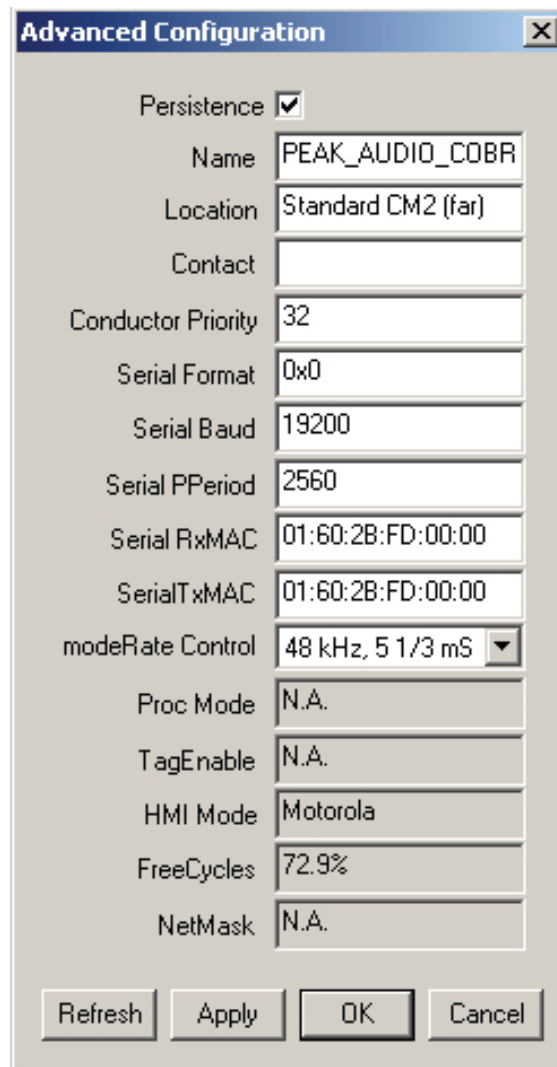

Figure 5-4: Global Interface settings
- Main Interface settings: This section covers the more advanced variables not usually associated with bundle management and which apply to the CobraNet™ device globally (see Figure 5-4). These are explained in detail in the CNDISCO manual, but 2 are of particular importance to the Ci series interfaces, ie...
settings via “persistence” (see previous section and Figure 5-4). If the persistence option is enabled, then the last set of values/settings can be stored into the Cobranet flash and will be restored on power up. Note that these settings can take up to 1 minute to save, as they are stored in between other processes.